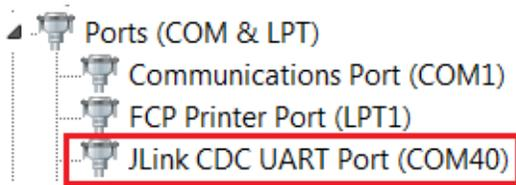

Figure 3. Locating the RSL10_EVB COM port
4. Use the Windows™ Device Manager and locate the COM port assigned to your RSL10 EVB (COM40, in this example), as illustrated below in Figure 3.